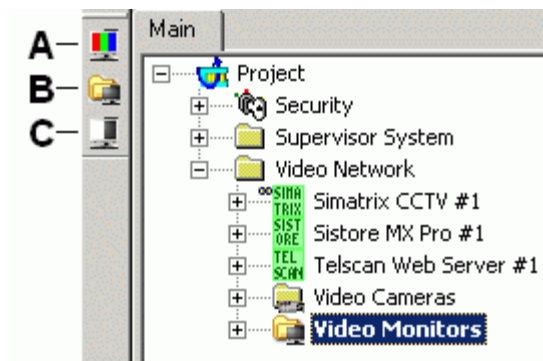

Fig 9 Adding monitors
2. In the left-hand bar (Fig 9), select the type: Monochrome or colour monitor.